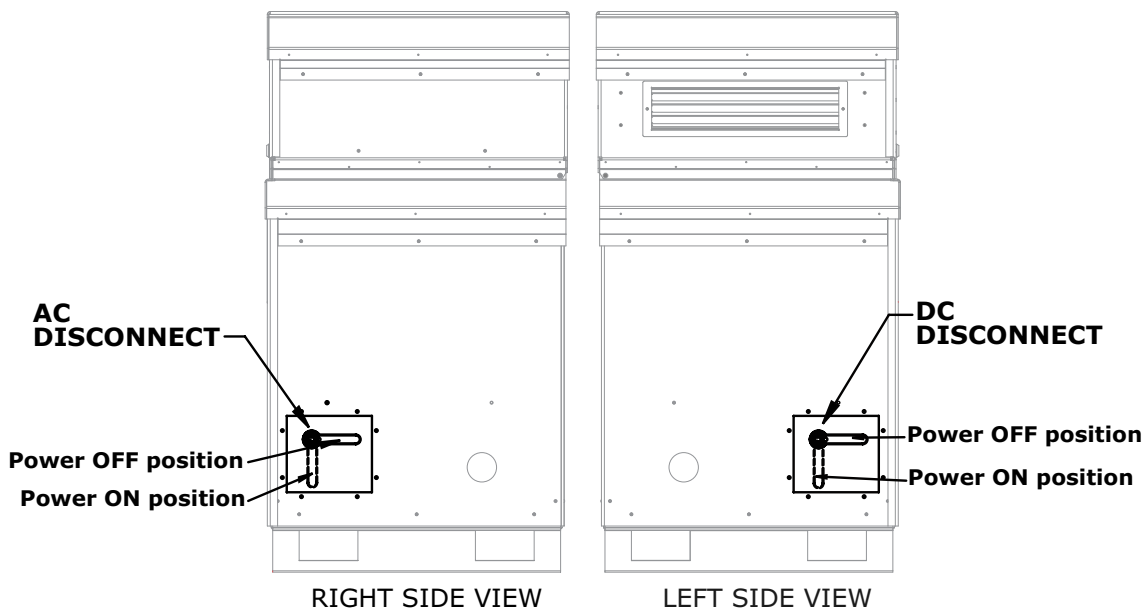

Figure 2-1 AC and DC Disconnect Power OFF
3. Position the AC Disconnect lever to the OFF position as shown in Figure 2-1.
4. Position the DC Disconnect lever to the OFF position as shown in Figure 2-1.